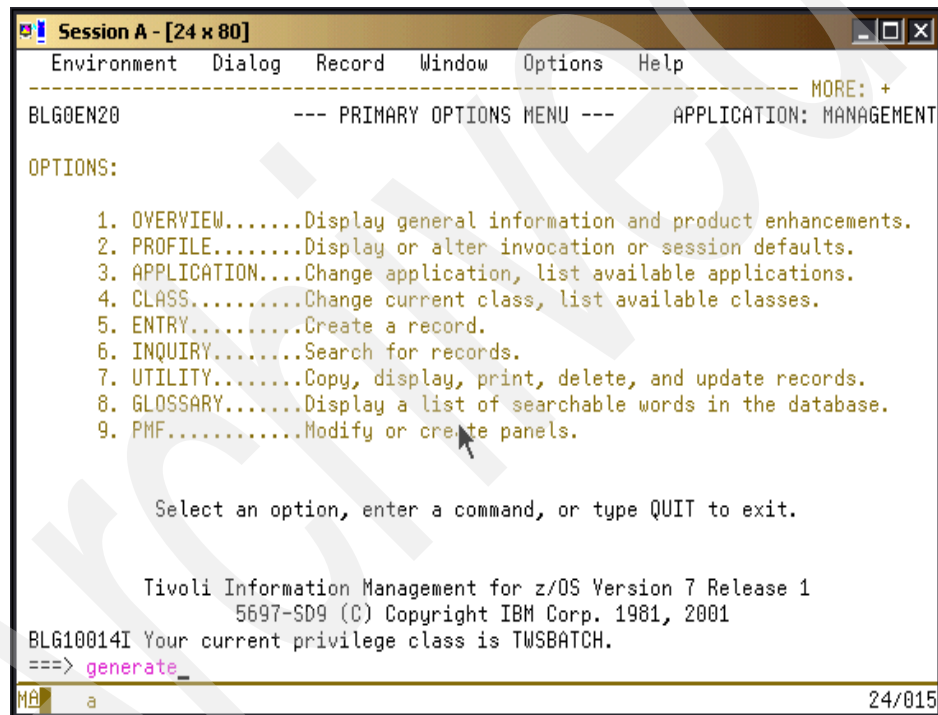

Figure 2-14 Start to generate the SRC
1. On the command line, type **generate** and press Enter to start the creation of the SRC as shown in Figure 2-14.